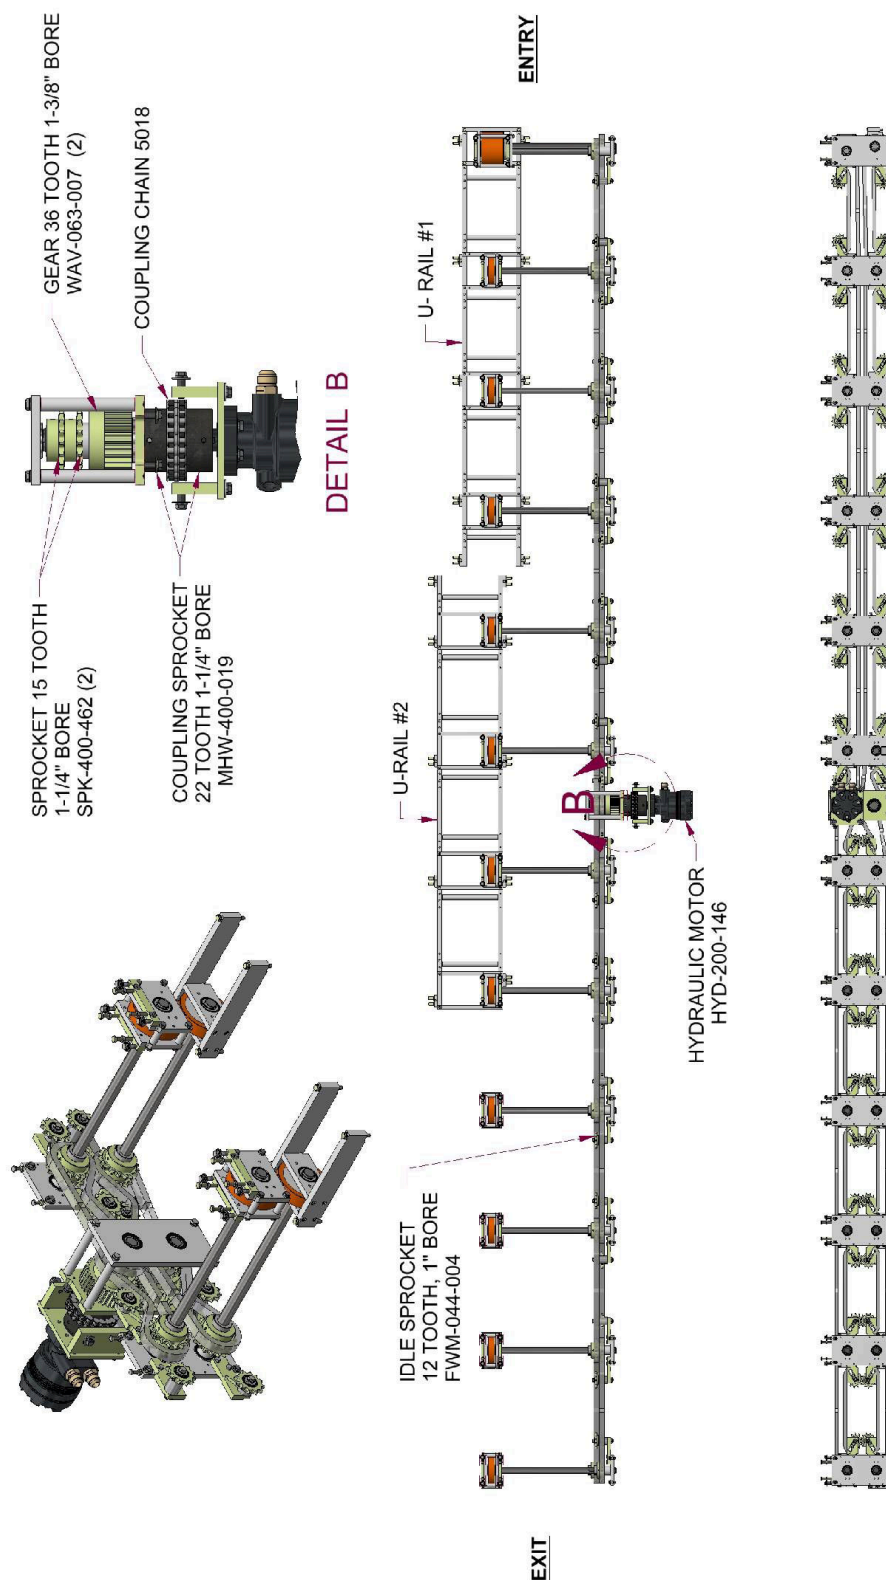
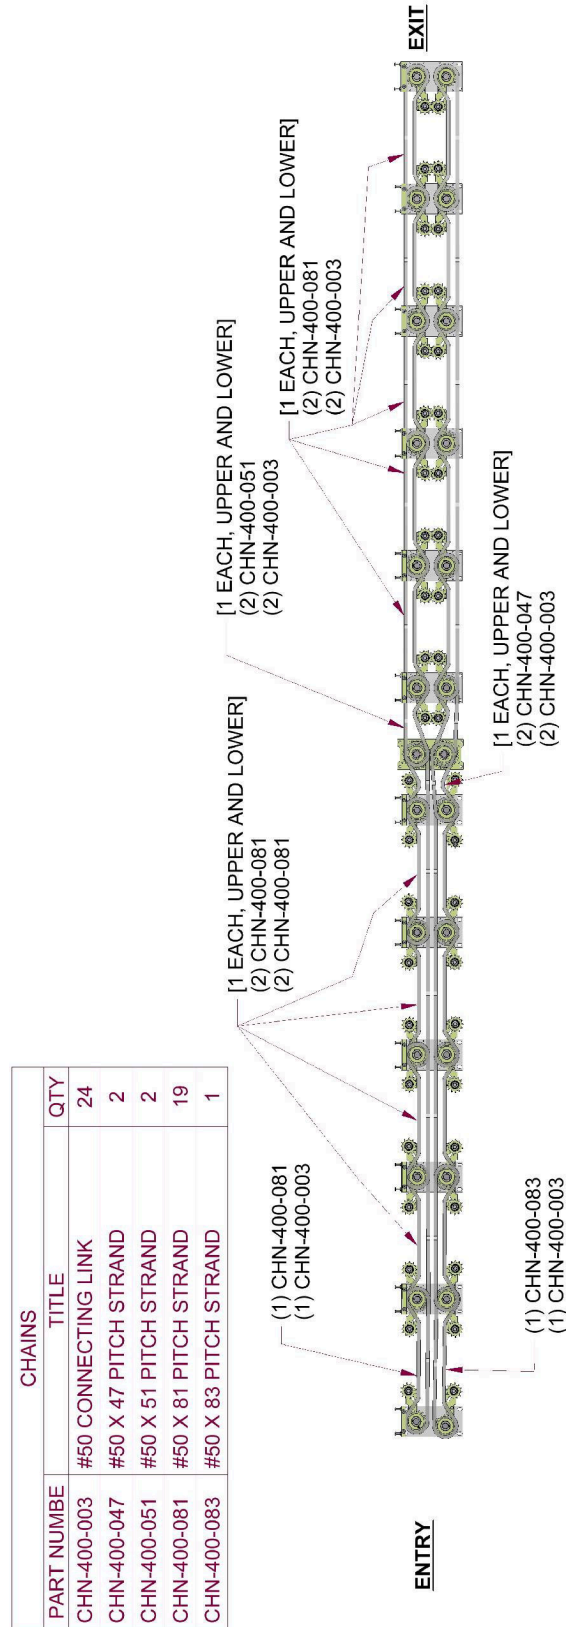

Figure 21: Gears and Shafts
Figure 22: Chains Upper and Lower
(Figure 20, Figure 21 & Figure 22)
3. The chains used in this system are #50 Roller Chain. See Figure 22 for chain locations and lengths if chain replacement is necessary.